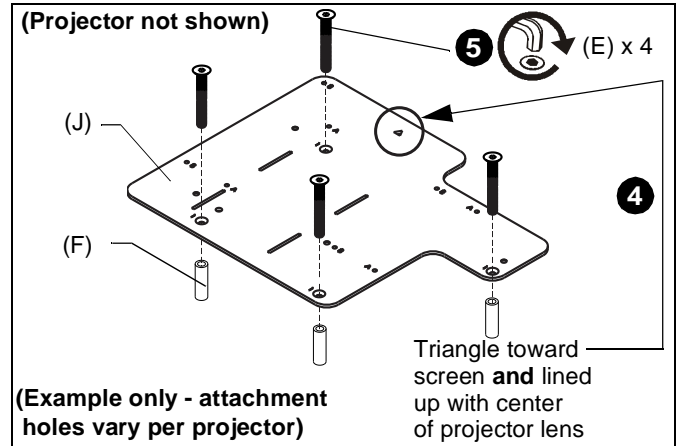
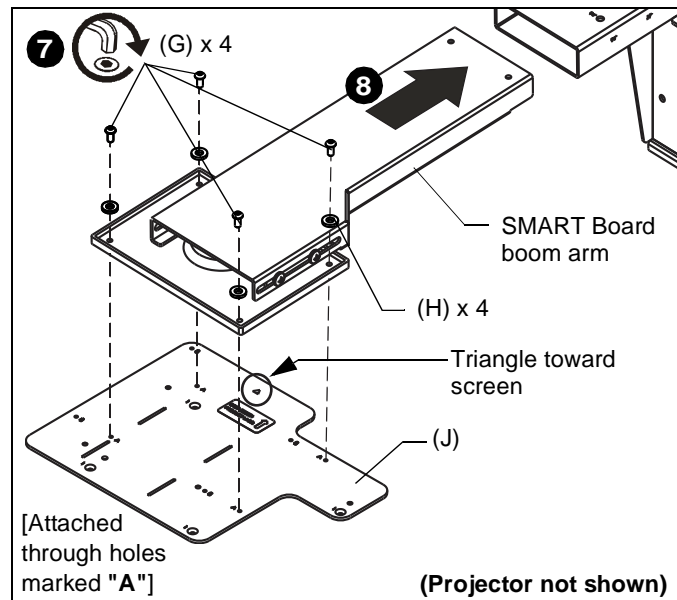

Figure 5
Figure 6
3. Place four spacers (F) over the threaded inserts in the bottom of the projector.
4. Place the interface bracket (J) [with "A" and "B" markings visible] onto the bottom of the projector, aligning the mounting holes (marked as "1") in the bracket with the spacers and threaded inserts in the bottom of the projector, and ensuring that triangle in bracket points towards screen, and lines up with center of the projector lens. (See Figure 5)
5. Place four M4x35mm flat head screws (E) into the mounting holes marked as "1", through the spacers (F) and into the threaded inserts.
7. Attach interface bracket (J) with attached projector to end of the existing SMART Board boom arm through the mounting holes marked as "A" using four M4 x 8mm button head cap screws (G) and four M4 washers (H). (See Figure 6)
8. Slide SMART Board boom arm into the SMART board mount to correct location for both boom extension and height according to projector model and SMART Board model, and following information in Table 2. (See Figure 6)